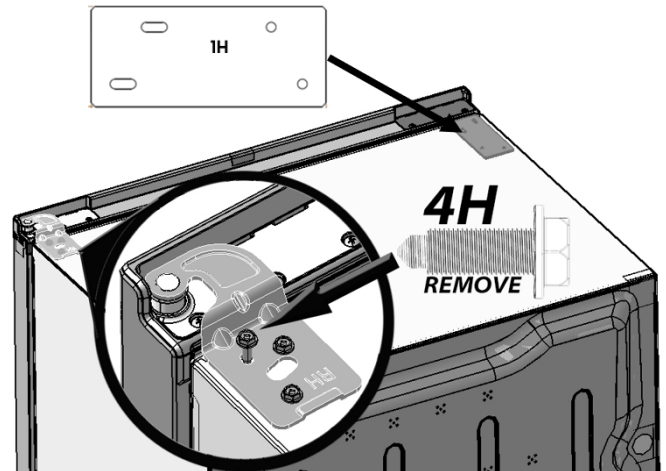

Figure 26
8. a. Remove the front outer screw from the top hinge (Figure 26) using a 5/16" socket driver or wrench and save for later. Locate bracket 1H and place it on the top of the unit (Figure 11) to be used on Step 14.